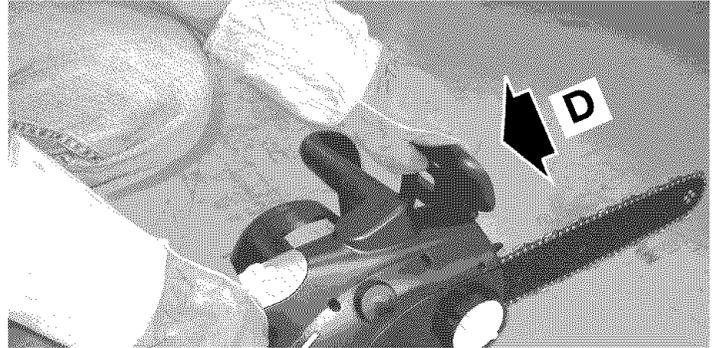

Fig. 23
Disengage the Chain Brake® (D) by pulling it backward (Fig. 23).